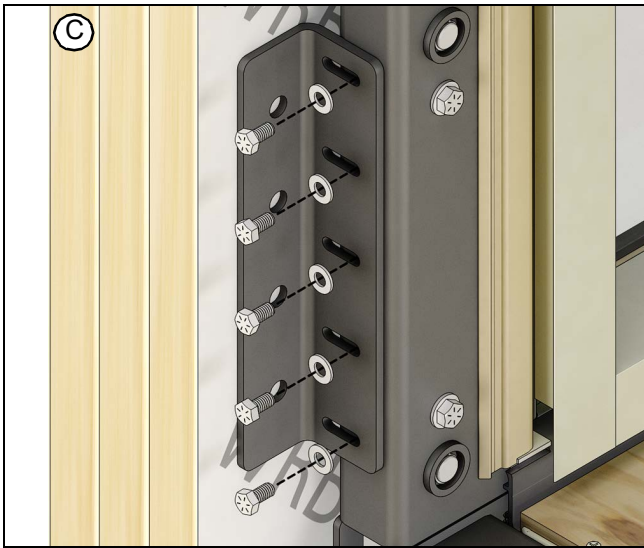

Figure 23
1. Place steel structural bracket against upright steel tube using a 5/16" (8) bolts and washers (Kit C). Snug up brackets to steel, still allowing it to slide to contact the rough opening. Do not fully tighten at this time. See Figure 23.